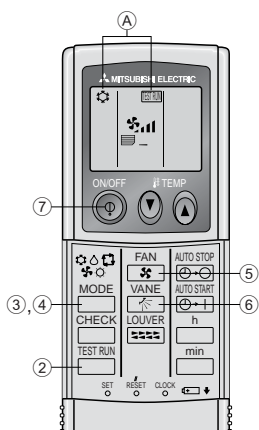

Fig. 7-2
7.2.2. Using wireless remote controller (Fig. 7-2)
- ① Turn on the power to the unit at least 12 hours before the test run.
- ② Press the  button twice continuously. (Start this operation from the status of remote controller display turned off.)
- ③ Press the  button to activate COOL mode, then check whether cool air is blown out from the unit.
- ④ Press the  button to activate HEAT mode, then check whether warm air is blown out from the unit.
- ⑤ Press the  button and check whether fan speed changes.
- ⑥ Press the  button and check whether the auto vane operates properly.
- ⑦ Press the ON/OFF button to stop the test run.